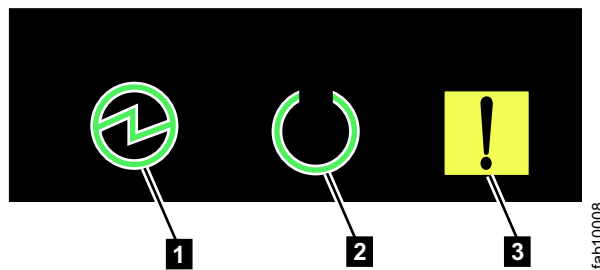

Figure 66. Power LEDs on a node canister
3. Wait for the power LEDs on all node canisters in all control enclosures to blink at 1 Hz, indicating that the shutdown operation completed, as shown in Figure 66.